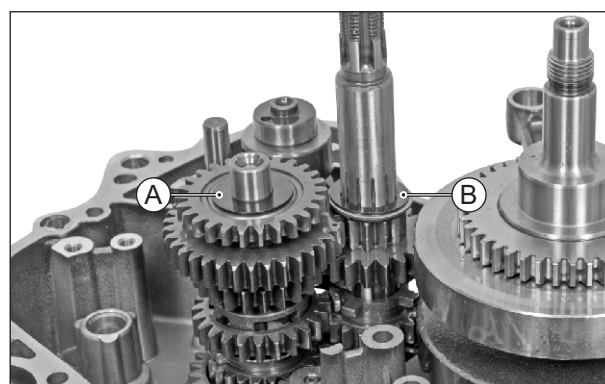

Fig. 3.143
- Take out the thrust washer (A) from the drive shaft assembly. (Fig. 3.143)
- Take out the bearing kick starter driven gear (B) along with thrust washer and shim from the counter (clutch) shaft assembly. (Fig. 3.143)